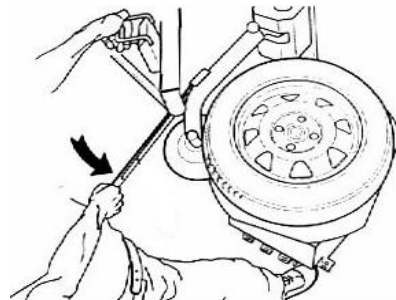

Fig 17
- d- Depress the corresponding pedal to turn the turntable in clockwise direction, operate the switch handle to rise the auxiliary arm until the bottom bead remove from the rim completely; (Fig 17)